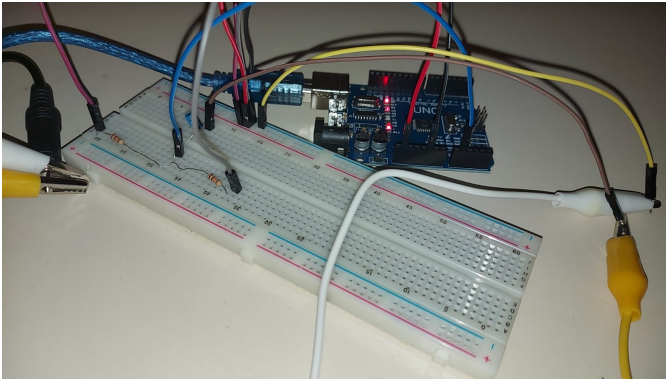

Fig. 2: DC Bias Circuit
- 3) The DC bias circuit setup can be seen in Fig. 2.